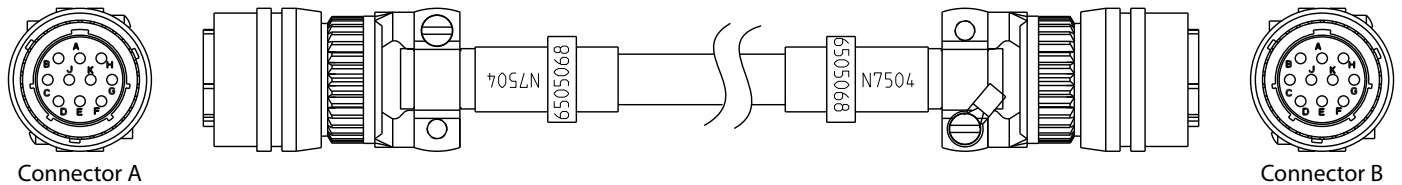

Figure 3: N7504 Communication Harness and Schematic
2. Set DMM to ohms scale and measure resistance between connector pins as shown in Figure 3 below. If one or more of the following tests are out of specification, harness is faulty and should be replaced: